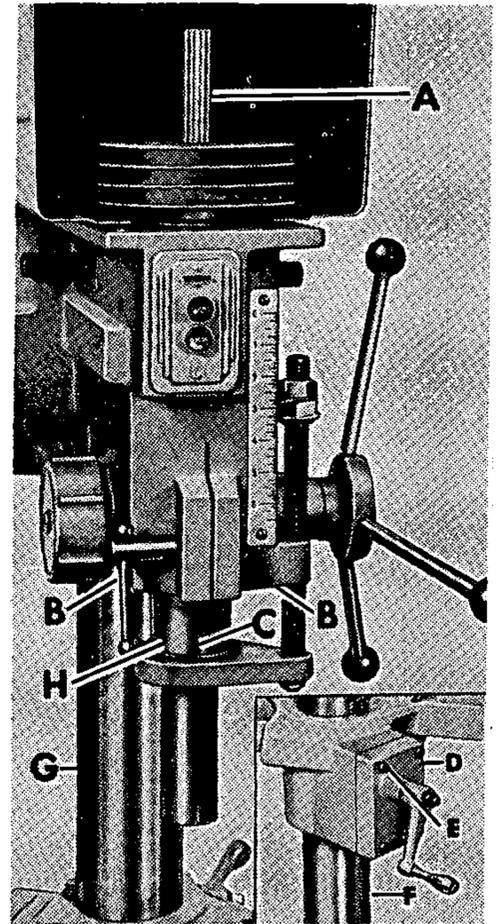

Figure 2
1. SPINDLE PULLEY DRIVE — use a light grease occasionally on spindle splines (A, fig. 2).
2. LOWER QUILL BEARING (C) — lubricate daily with a few drops of S.A.E. No. 20 oil. (All other ball bearings in head are lubricated-for-life.)
3. FEED SHAFT (B) grease weekly with No. 1 bearing grease — fittings under head.
4. Keep QUILL (H) and COLUMN (G) covered with a light film of oil.
5. TABLE LIFT SHAFT (E) — oil once a week with S.A.E. No. 20 oil.
6. LIFT RACK (F) — lubricate regularly with S.A.E. No. 20 oil. Before oiling, clean rack with kerosene.
7. TABLE LIFT GEARS (D) — once a year, clean and repack with gear grease.